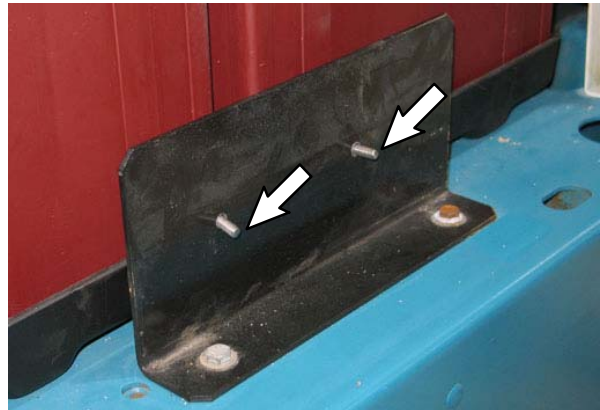
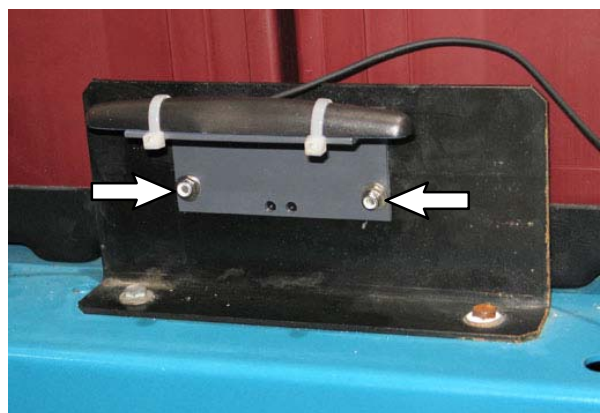

FIG. 10
FIG. 11
20. Use two M5 hex screws (20), four washers (4), and two M5 hex nuts (5) to install the antenna (6) / antenna bracket (19) onto the battery brace. (Fig. 10 / Fig. 11)